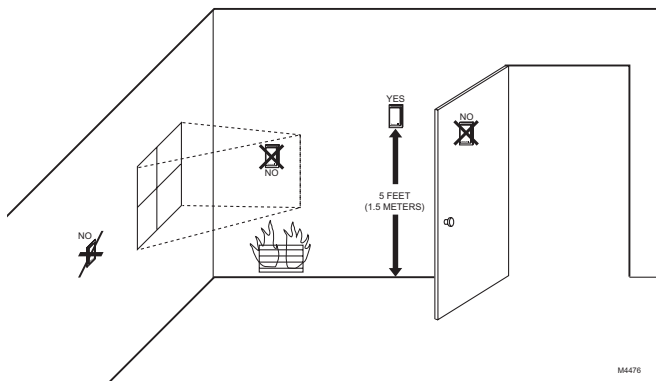

Fig. 27. Typical location for C7189 Indoor Sensor.
1. Choose a location (see Fig. 27) for mounting the sensor on an inside wall about 5 ft (1.5m) above the floor. A vertically-mounted standard 2 x 4 in. (51 x 102 mm) junction box can also be used.
3. Make sure there is good air circulation at average temperature at the chosen location. Avoid the following locations because they can introduce errors in sensor measurements. See Fig. 27.